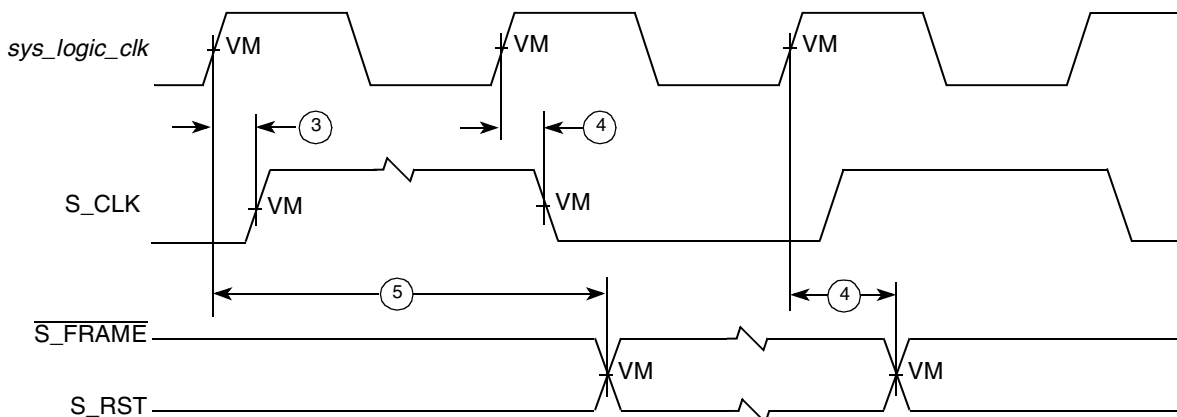
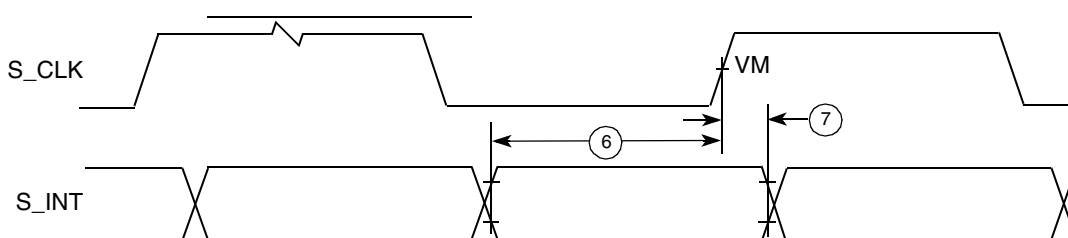

Figure 18. PIC Serial Interrupt Mode Output Timing Diagram
Figure 19. PIC Serial Interrupt Mode Input Timing Diagram
- S_RST, $\overline{S_FRAME}$, and S_INT shown in Figure 18 and Figure 19, depict timing relationships to sys_logic_clk and S_CLK and do not describe functional relationships between S_RST, $\overline{S_FRAME}$, and S_INT. The *MPC8245 Integrated Processor Reference Manual* describes the functional relationships between these signals.